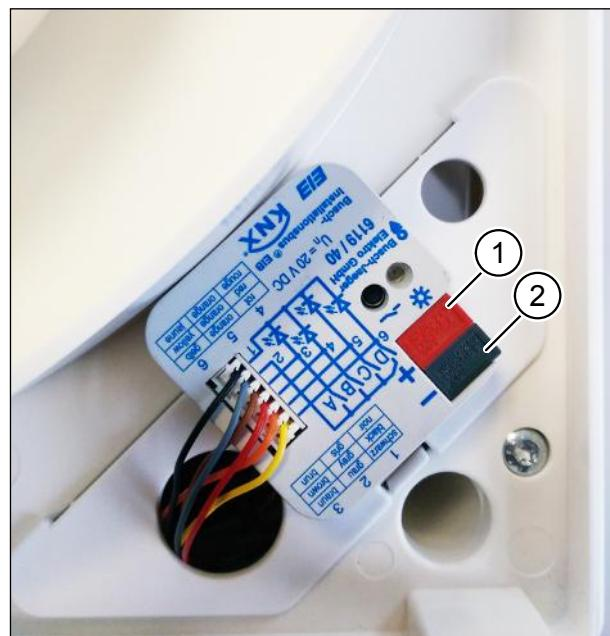

Fig. 13: Connecting the EIB bus cable to the EIB universal interface 6119/40
- ▶ Connect the "+" bus wire to the red terminal (item 1 in Fig. 13).
- ▶ Connect the "-" bus wire to the grey terminal (item 2 in Fig. 13).